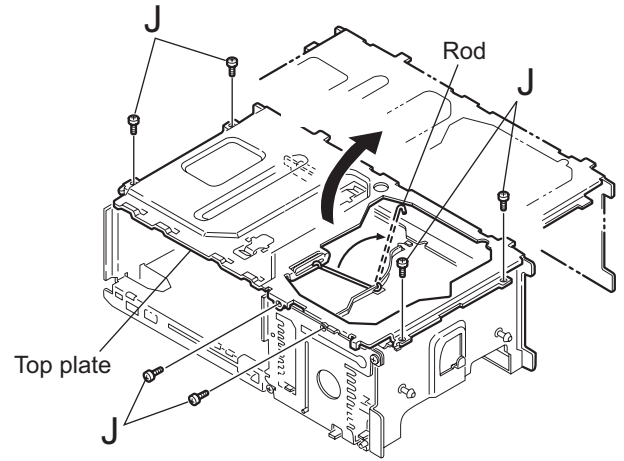

Fig.17
2.4.6 Remove the top plate (See fig.17,18)